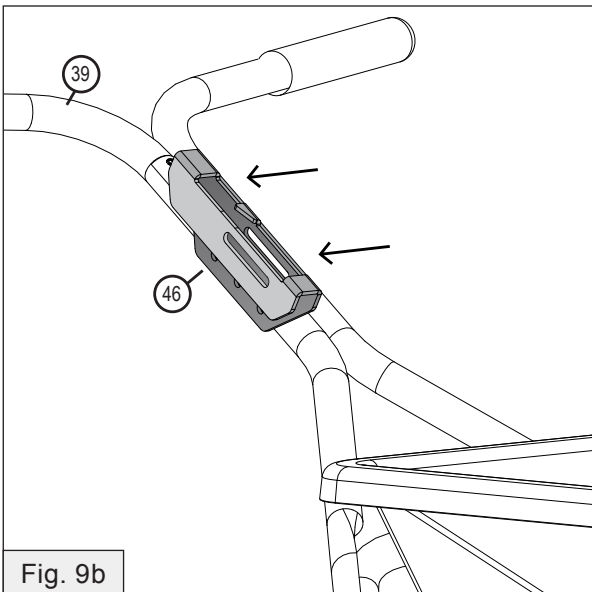

Fig. 9b
- The lip of the the Winter Gauge (46) needs to be **POINTED OUT & AWAY** from the handle tubing (39). See Fig 9b